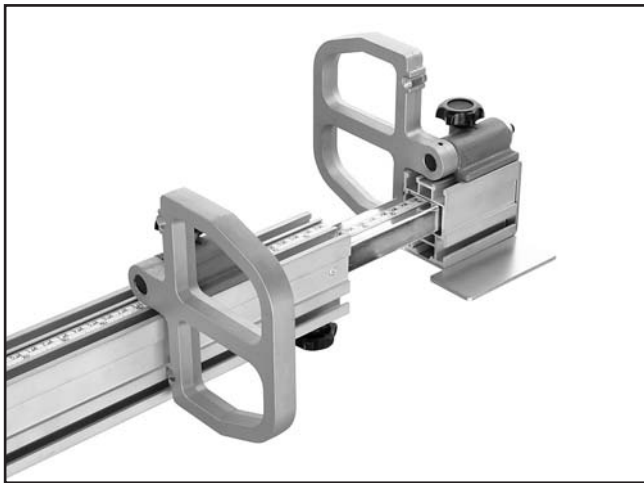

Figure 45. Stop block installation.
4. Unlock the fence extension and slide the flip stops into the fence as shown in **Figure 45**.